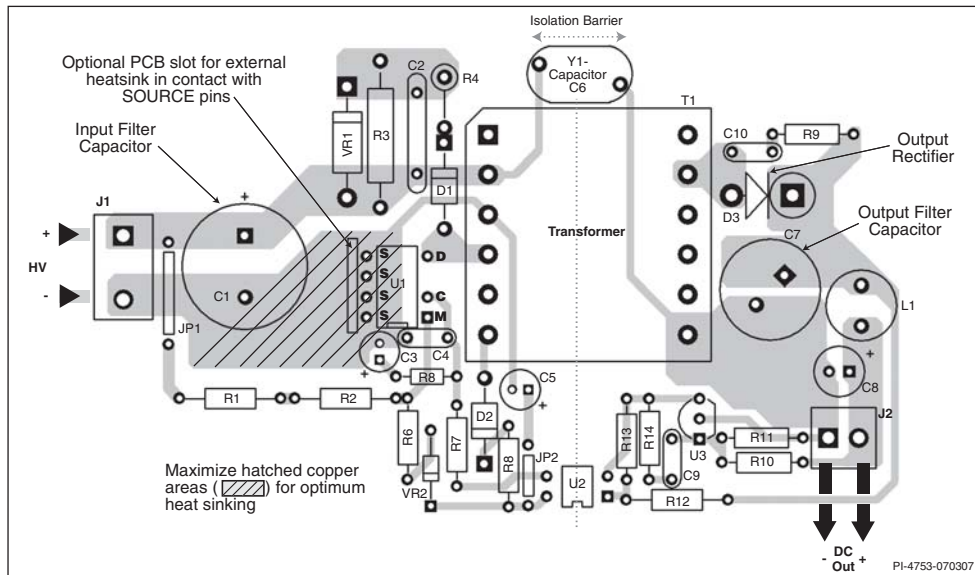

Figure 15. PCB Layout Example Using P-Package
- In addition to the 47 μF CONTROL pin capacitor, a high frequency 0.1 μF bypass capacitor in parallel should be used for local decoupling (C4 in Figures 15, 16 and 17).